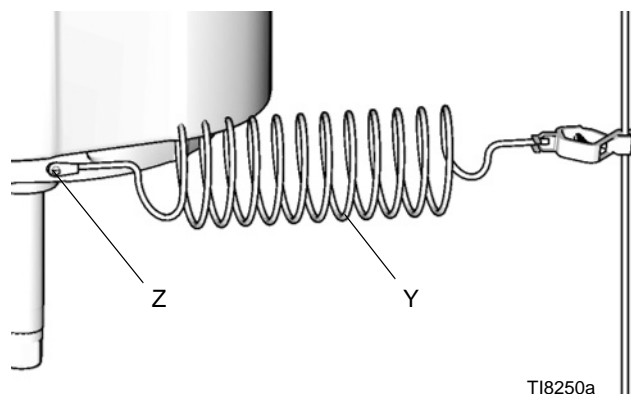

FIG. 2. Ground Wire
Pump: use a ground wire and clamp (not included). See FIG. 2. Remove the green ground screw (Z) from the bottom of the air motor. Insert the screw through the loop on the end of the ground wire (Y) and reattach the screw to the air motor. Connect the ground clamp to a true earth ground. Order Part No. 244524, Ground Wire and Clamp.